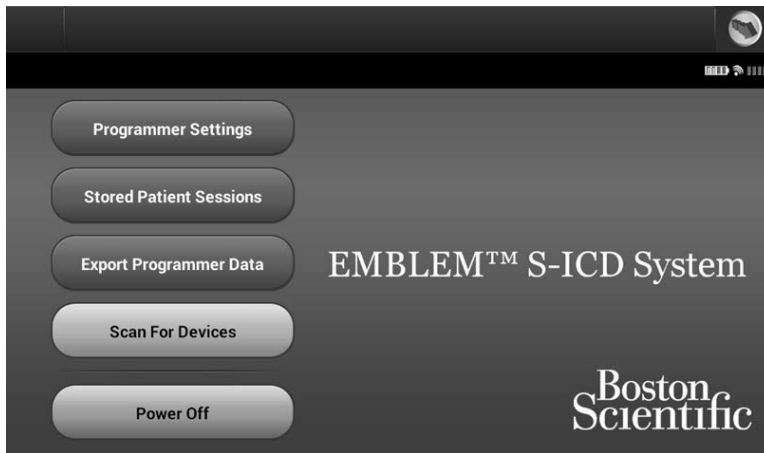

Figure 15: *Programmer start-up screen*
1. Select the Scan For Devices button on the programmer start-up screen (Figure 15). The Scan Progress Bar is displayed during the scanning process, at the conclusion of which the Device List screen appears. Select the Cancel button at any time to end the scanning process.